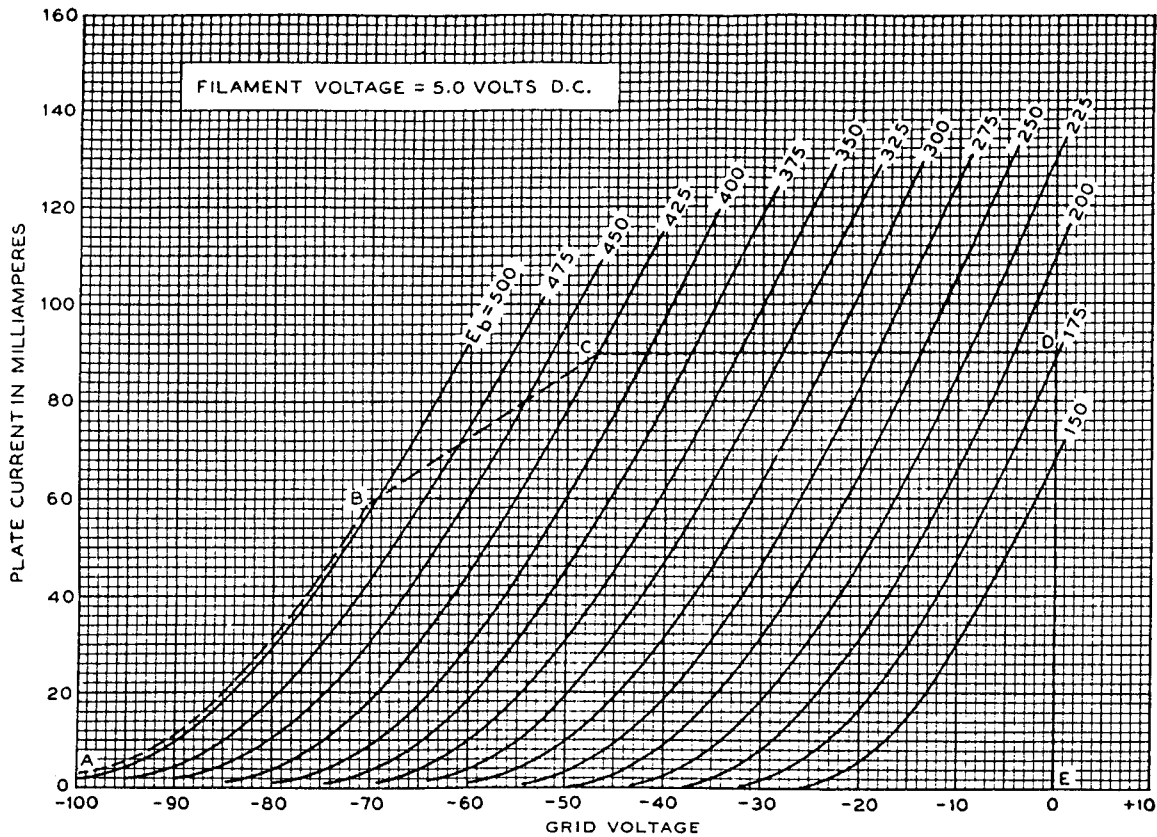
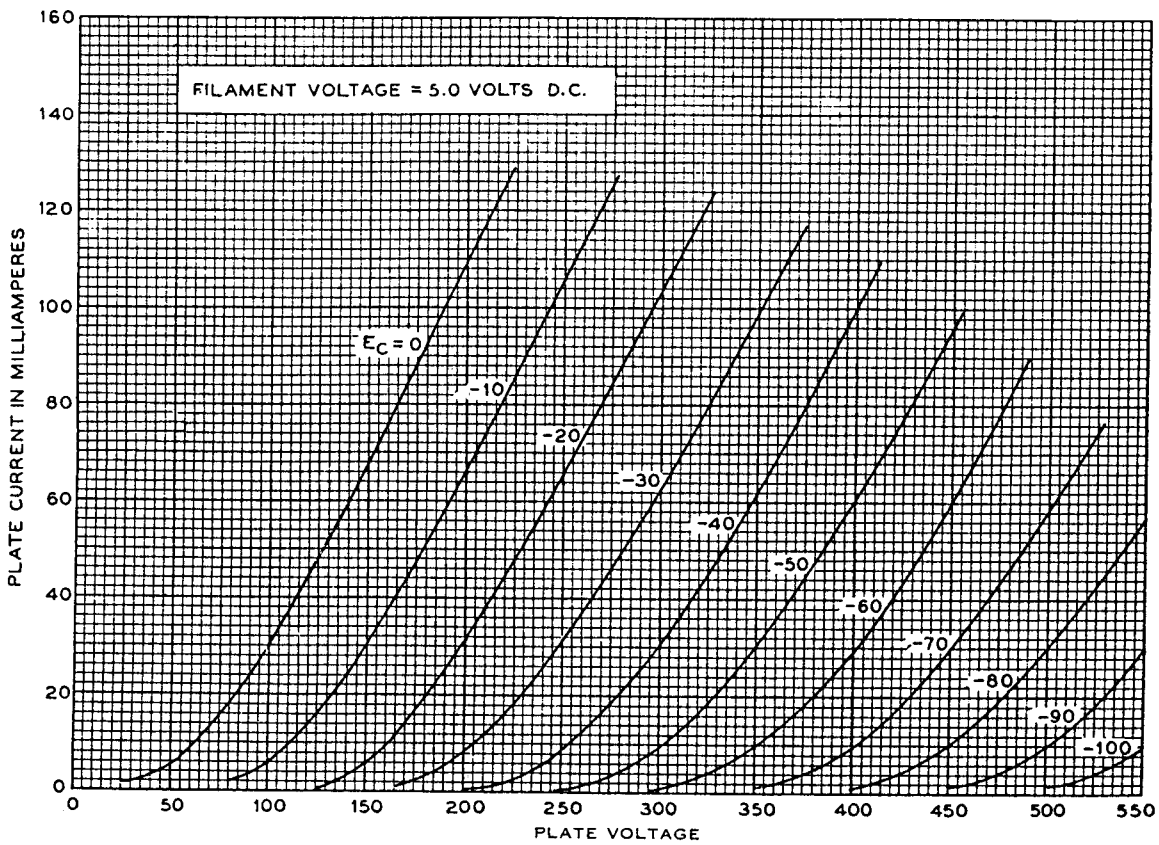
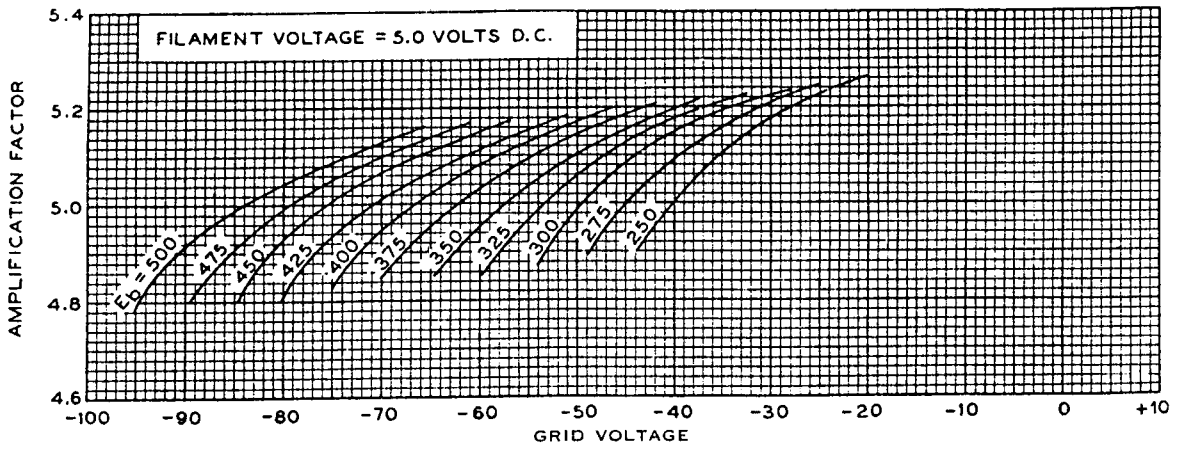

FIG. 3
FIG. 4
FIG. 5
Characteristics—Plate current characteristics of a typical 252A tube are shown in Figure 3 as functions of grid voltage for a number of values of plate voltage. Similar characteristics as functions of plate voltage for several values of grid voltage are given in Figure 4. Amplification factor, plate resistance, and transconductance characteristics are shown in Figures 5, 6 and 7, respectively as functions of grid voltage for several values of plate voltage. All of these characteristics are for direct-current filament supply with the grid and plate returns connected to the negative end of the filament. With alternating-current filament supply, approximately the same characteristics are obtained if 3.0 is added to the numerical value of each grid bias.
*Modified as indicated in Figure 3 for plate voltages between 425 and 500 volts.
**Except between plate voltages of 425 and 500 volts, where limits should be 15 milliamperes less than those indicated in Figure 3 for a given plate voltage.
Operating Conditions and Output—Permissible combinations of operating plate voltage and plate current are included within the area, ABCDE, in Figure 3. Amplification factor, plate resistance, transconductance, and performance data are listed in the table on page 3 for a number of typical operating conditions represented by selected points within this area. A less severe operating condition should be selected in preference to a maximum operating condition wherever possible. The life of the tube at maximum conditions may be shorter than at less severe conditions.